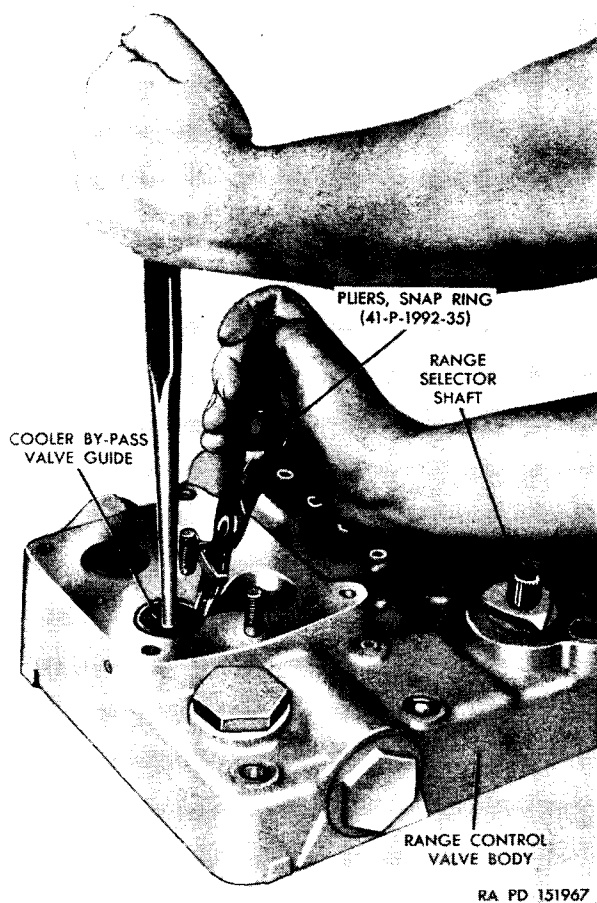

Figure 228. Removing cooler-by-pass-valve snap ring.
- (1) Using a $\frac{3}{8}$ -inch wrench, remove the range-selector-detent plug (Y) and copper gasket (X). Lift out the poppet spring (T) and shift lever poppet (S).
- (2) Using snap ring pliers (41-P-1992-35), remove the snap ring (CC) which holds the cooler-by-pass valve in the valve body assembly (fig. 228). Lift out the valve guide (BB), spring (AA), and cooler-by-pass valve (JJ).
- (3) With snap ring pliers, remove the snap ring (Z) on the shift-valve-inner lever assembly (RR). Using a soft hammer, gently tap the shaft out of the selector indicator (W), thrust washer (V), range selector shaft oil seal (U), and range control valve body (QQ).
- (4) Using a $\frac{3}{8}$ -inch wrench, remove the plug (E) and the "O" ring gasket (F) which covers the overspeed-safety valve (G). Lift out the valve and spring (J).
- (5) Remove four bolts (A) from the range-selector-valve cover (B) using a $\frac{1}{2}$ -inch wrench. Lift off the cover and gasket (C). Slide the range selector valve (D) out of the valve sleeve (H).
- (6) Using a $1\frac{1}{8}$ -inch wrench, remove the main-oil-regulator-valve plug (YY) and "O" ring gasket (XX). Lift out the spring (WW) and main-regulator valve (VV).
- (7) With a $1\frac{1}{8}$ -inch wrench, remove the converter-regulator plug (AD) and "O" ring gasket (AC) from the body. Remove the spring (AB). Lift out the converter-regulator valve (ZZ).
- (8) Using a $1\frac{1}{8}$ -inch wrench, remove the lubricating-oil-regulator plug (EE) and "O" ring gasket (FF). Lift out the valve guide (GG), valve spring (HH), and lubricating-oil-regulator valve (LL).